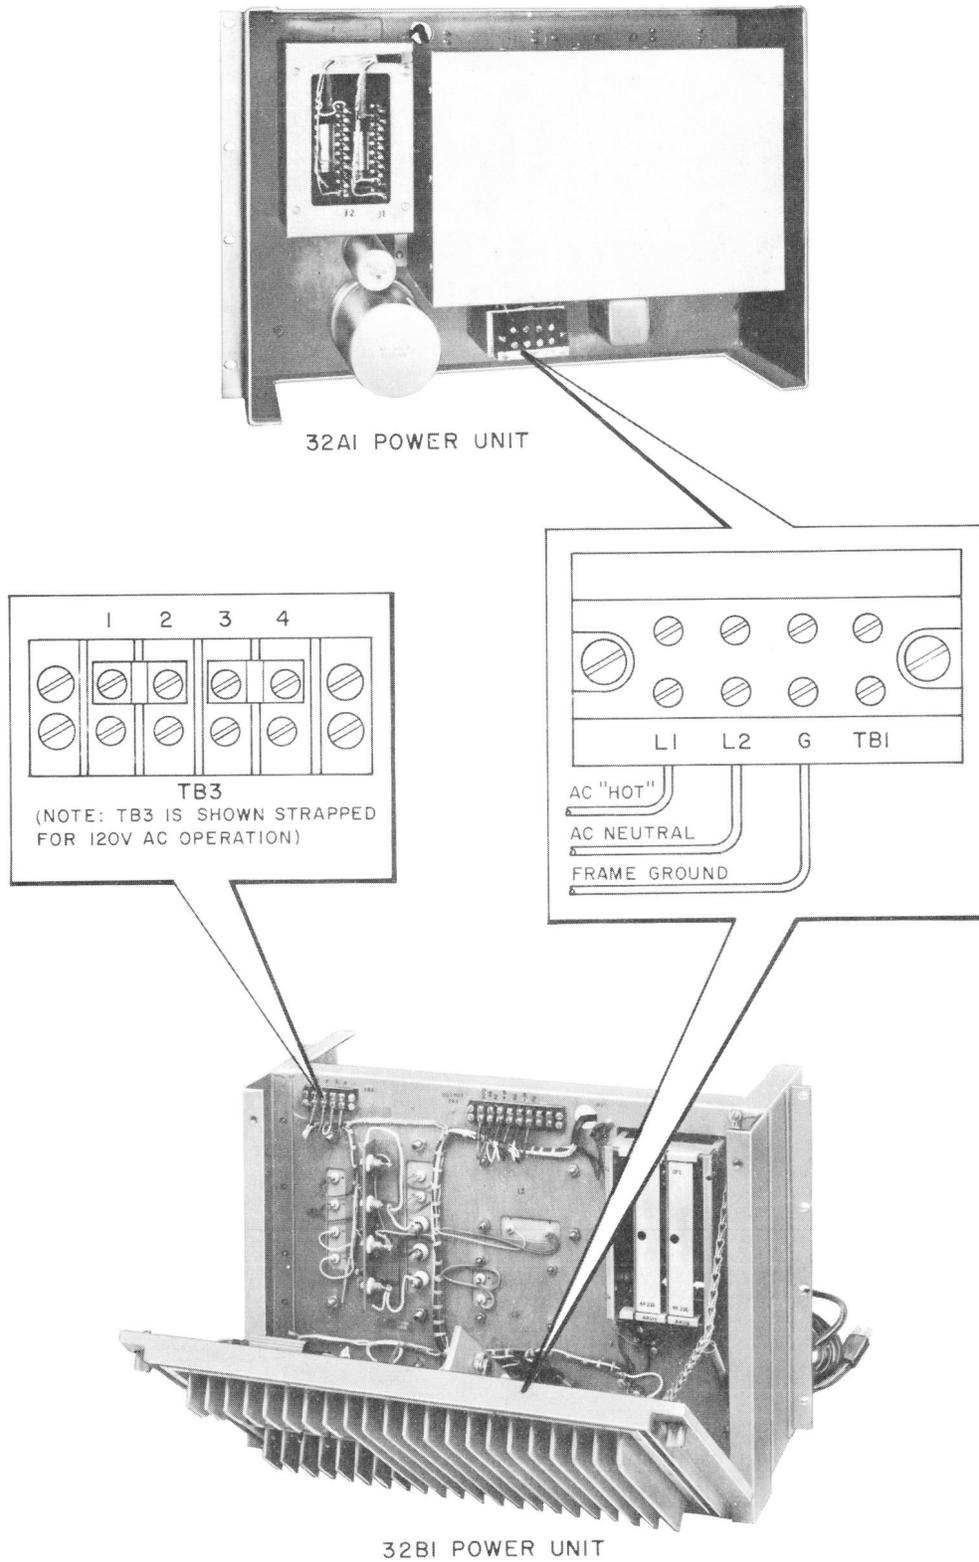

Fig. 2—Power Connections to Power Unit Associated With Data Set 207-Type
**3.03** The 32B1 power unit is factory-supplied with a power cord which must only be plugged into a 120-Vac outlet. If operation from a 230-Vac outlet is required, the power cord must be replaced. For either 120-Vac or 230-Vac connections, the ac "hot" wire is connected to "L1" on AC INPUT terminal block TB1. The AC neutral, or ground, wire is connected to "L2" on TB1, and the frame ground lead is connected to "FG" on TB1. These connections are illustrated in Fig. 2.